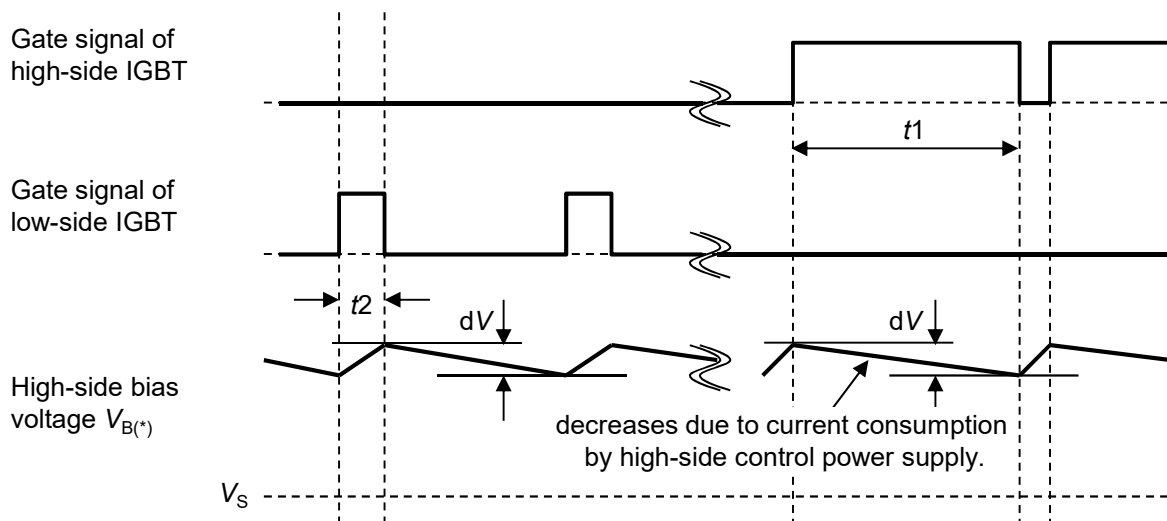

Fig. 3-10 Timing chart of charging and discharging operation
- * dV : allowable discharge voltage of $V_{B(*)}$ (refer to Fig.3-10)
In the case of the control mode which only the high-side IGBT performs switching operation (Fig. 3-10), the time constant should be set so that the discharged voltage can be fully recharged again during the high-side IGBT OFF (low-side FWD ON) period.